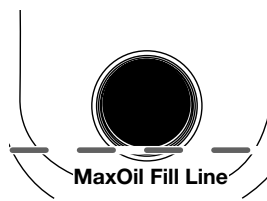

Fig. 41
5. Look into the oil fill hole, use a flashlight if needed. The oil should be just touching the inner most thread (Fig. 41).
6. If the oil level is not touching the inner most thread on the oil fill hole, add a small amount of oil to the oil fill hole and recheck (Fig. 41). Repeat this procedure until the oil level reaches the inner most thread on the oil fill hole.